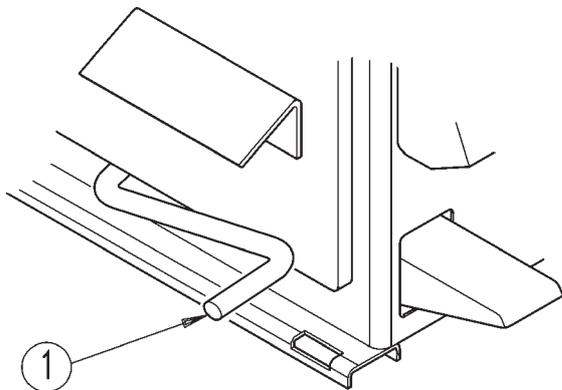

Figure 3.0-5
- F** Press bead seater/inflator pedal on left side of the machine half way down (#1 Fig. 3.0-5): air will come from inflation hose end only.